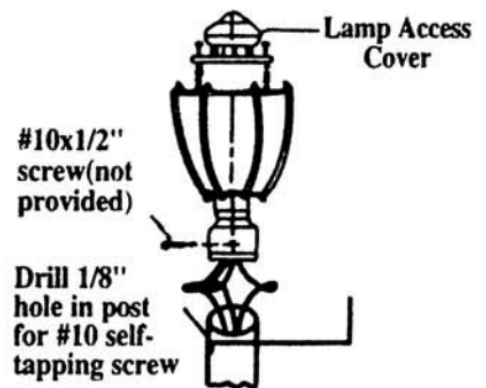

FIG.7
4. Secure fixture to post with # 10x1/2"self-tapping screw.(not provided)(FIG.7)